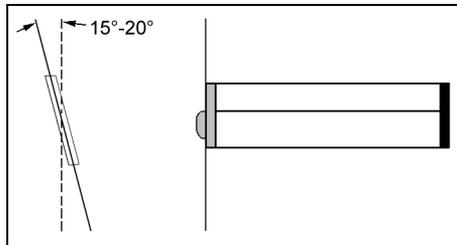

Figure 6. Supplemental Window Angle
- The angle between the window and the engine should be approximately 15° to 20°, but should be adjusted as needed. See Figure 6.